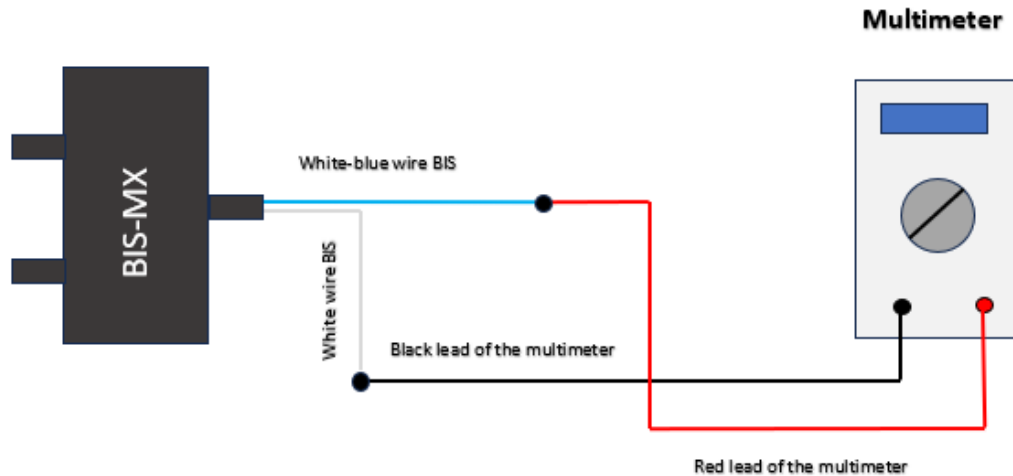

Fig. 5 Connection Diagram
2. Assemble the connection circuit according to “Fig. 5 Connection Diagram”.